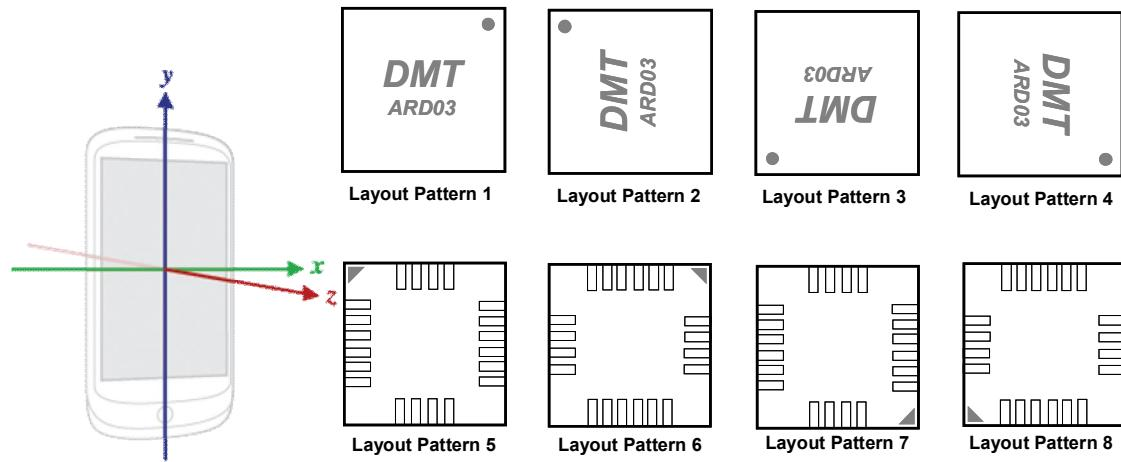

Figure 1: Android SensorEvent Coordinate System and DMARD03 Layout Patterns
3. Specify the g-sensor layout by defining one of the following macro in “dmt030818.h”. The example code uses layout pattern 1. See Figure 1 for other g-sensor layout pattern orientations.
The coordinate system used by the Android SensorEvent API is defined relative to the screen of the phone in its default orientation, as shown in the Figure 1. Specify the g-sensor layout to one of the layout patterns illustrated below.